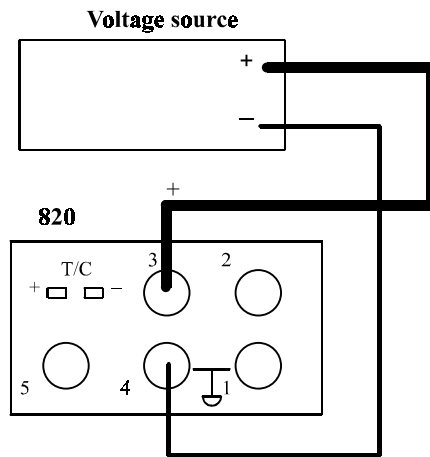

FIGURE 8
3. Hi Calibration: Connect a Voltage Source (Set to 100.00mV) to terminals 3 and 4 of the 820 (See figure 8). Press *STORE*; make sure you hear the beep, then press *SOURCE/READ*..
3. Hi Calibration: Connect a Voltage Source (Set to 10.00V) to terminals 3 and 4 of the 820 (See figure 8). Press *STORE*; make sure you hear the beep, then press *SOURCE/READ*.